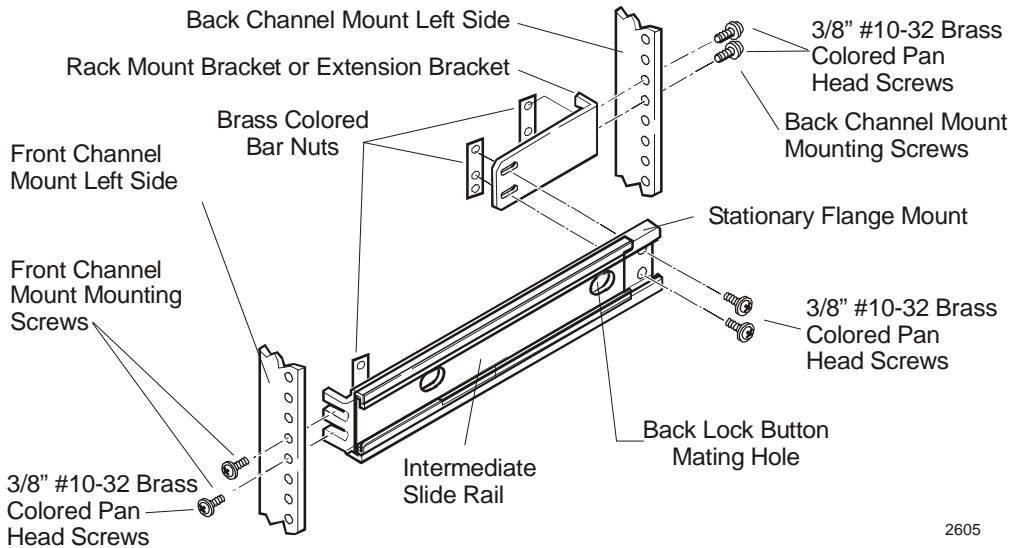

Figure 19. Stationary Flange Mount Slide Assembly
1. Loosely fasten the left side rack mount bracket (use extension bracket if necessary) to the left side stationary flange mount with two screws and one bar nut*, as shown in Figure 19. Adjust the length of the stationary flange mount/rack mount bracket assembly to fit between the front and back channel mounts. Secure the screws holding the stationary flange mount to the rack mount bracket.